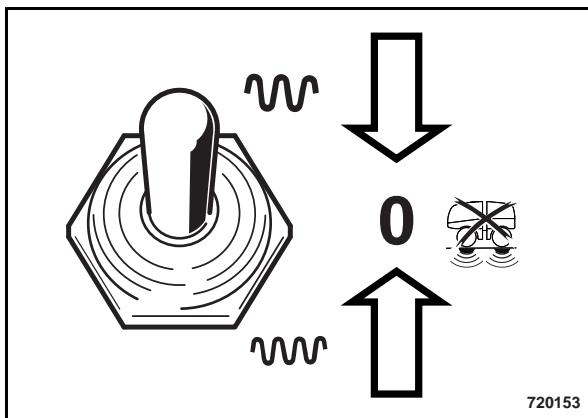

Fig. 32
- Set the vibration toggle switch (Fig. 32) to position "0".